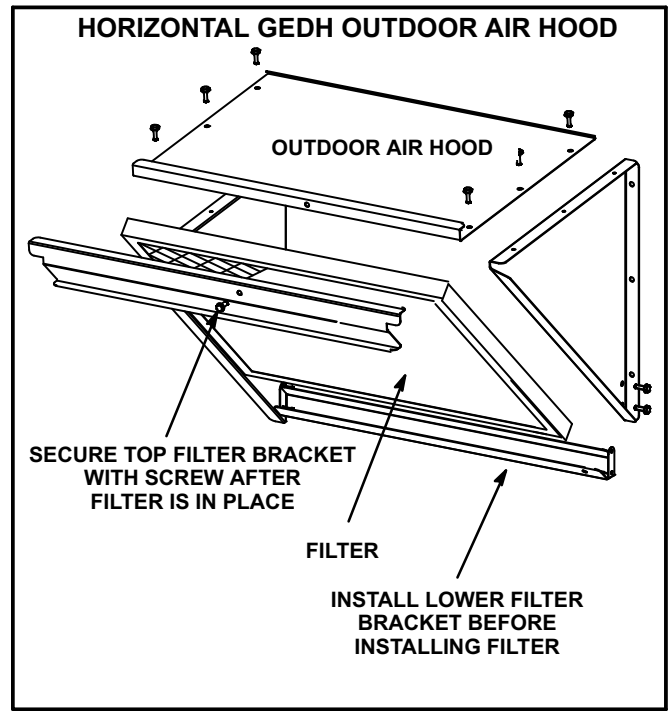

FIGURE 12
- 7- Install the upper hood on the unit as shown in figure 12.